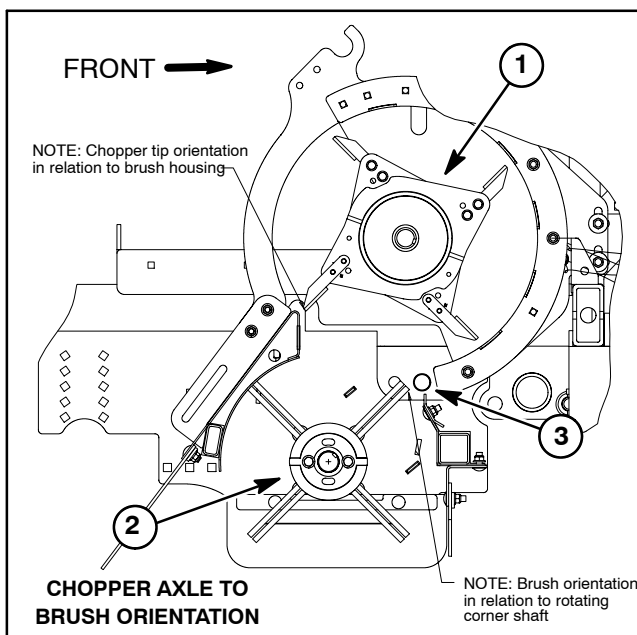

Figure 30
9. Rotate chopper axle so that a row of chopper tips is aligned with the brush housing corner. Rotate brush shaft so that one of the brush tips is aligned with the rotating corner shaft (Fig. 30).
**IMPORTANT:** Make sure that brush shaft and chopper axle are properly aligned as drive belt is installed on right end of brush shaft (Fig. 30). Improper alignment will decrease machine performance and may lead to increased debris buildup in Processor that can cause accelerated component wear and damage.
12. Adjust drive belt idler pulleys to achieve proper tension on drive belts (see Operator's Manual). After adjustment, make sure that chopper axle and brush shaft are still properly aligned (Fig. 30).